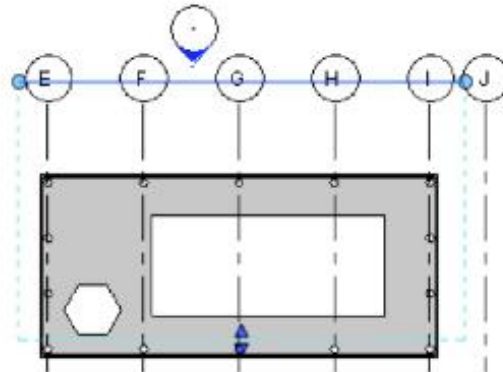

Figure 7–55
- Change the length and depth of the elevation boundaries so only the poolhouse is displayed, as shown in Figure 7–55.